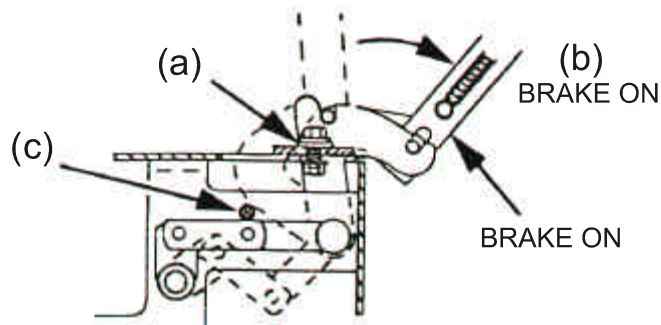

FIGURE 9
- b) Install hairpin clips in the holes for the desired cutting height (See Figure 9).
- d) Check linkage to ensure that they butt up against the over-centering stop bolt (c), and retighten the two 5/16-18 screws (See Figure 9).